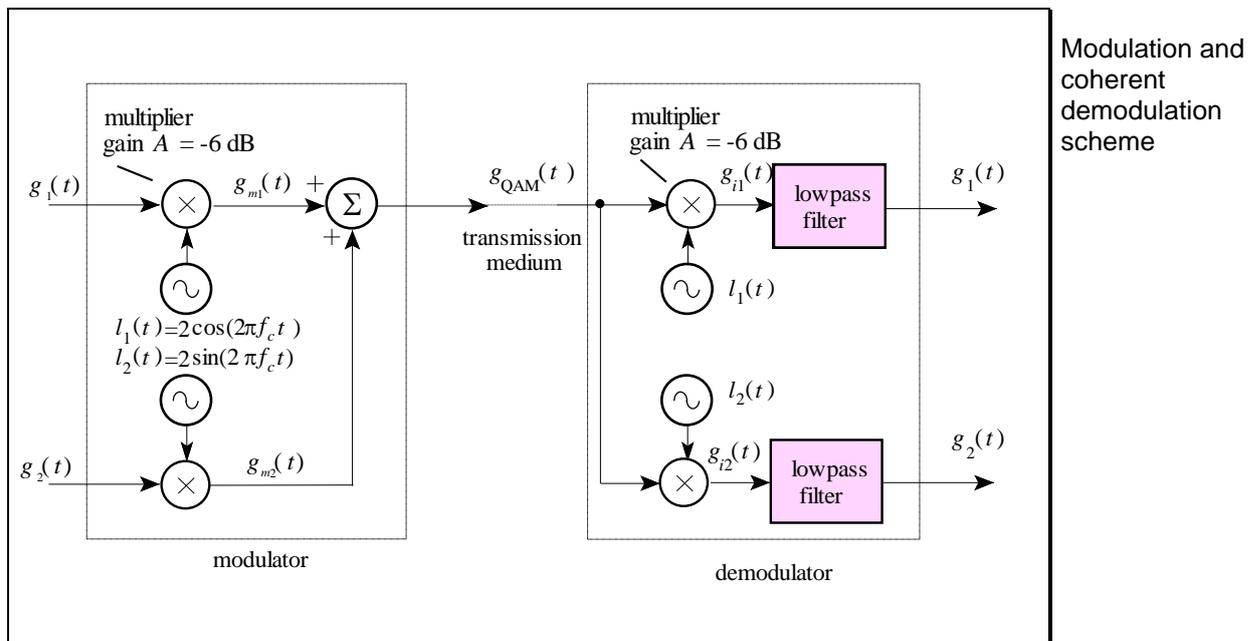

Figure L4.4
3. Construct a wiring diagram for the TIMS trainer that implements the modulation scheme shown in Figure L4.4 and the demodulation scheme shown in Figure L4.5.